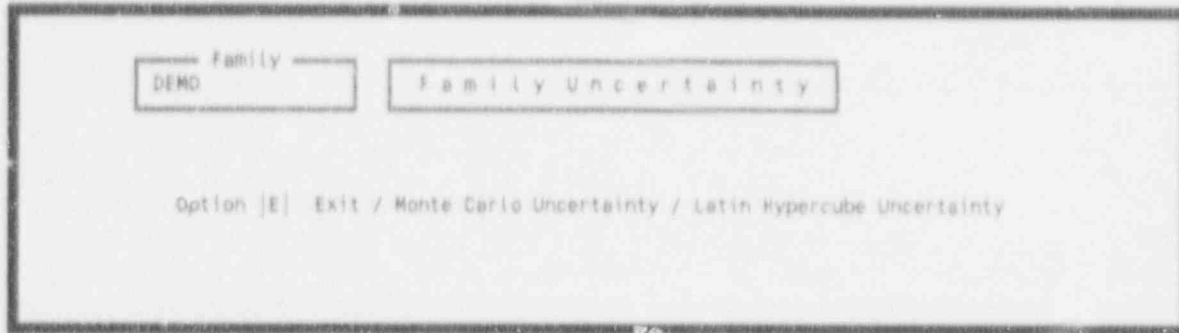

Figure 163. Family uncertainty selection menu.
8.2.5.5 Family. To generate an overall uncertainty analysis for all of the sequences within the current family, enter an <F> in the option field. The Family Uncertainty menu will be displayed (Figure 163). From this menu, you select the type of uncertainty analysis to be performed on the family (Monte Carlo or Latin Hypercube).